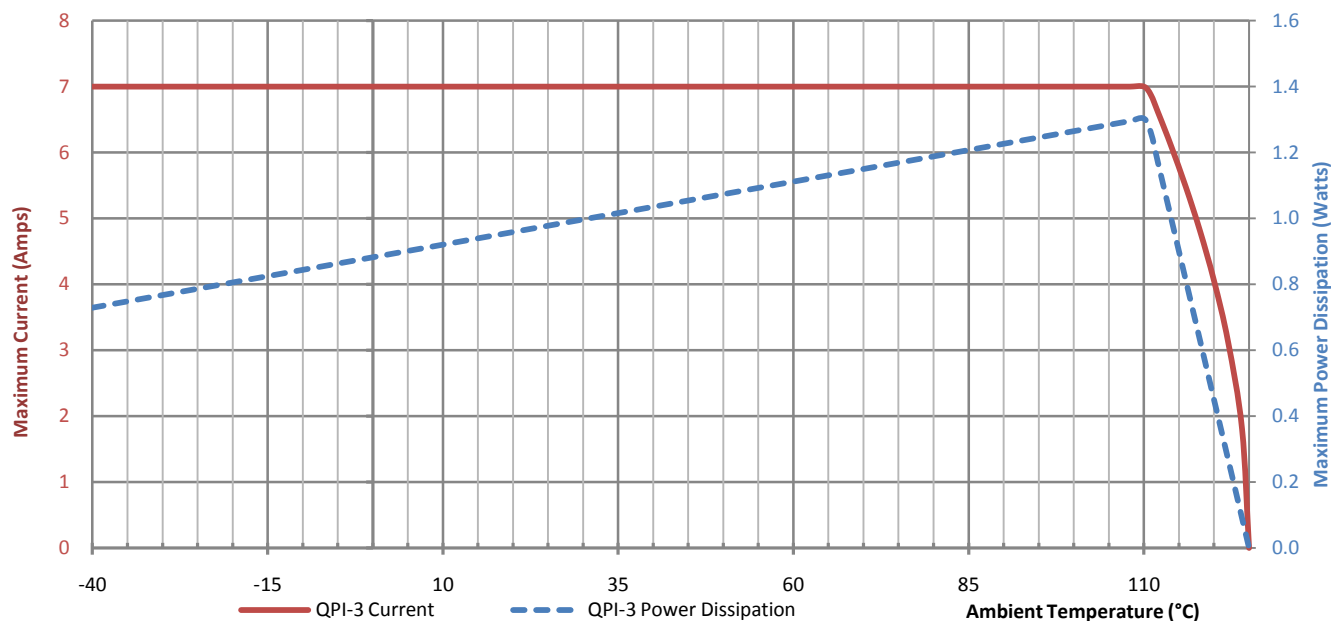

Figure 10 - Current de-rating and power dissipation over ambient temperature range.
- -40° to +125°C Ambient temperature (see Figure 10)
Note 2: See Figure 10 for the current de-rating curve.
The de-rating curve in Figure 10 is based on the maximum allowable internal component temperature and the 7 A maximum rating of the QPI-3. The power dissipation curve is based on the current squared multiplied by the internal